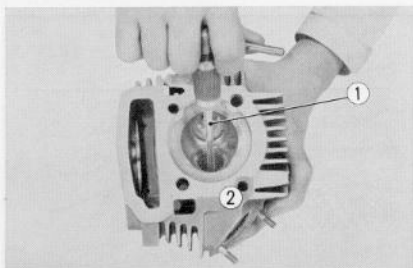

Fig. 3.21 ① Valve guide reamer ② Cylinder head
If the valve guide inside diameter is beyond serviceable limits, it may be repaired by using a reamer ① (Tool No. 07008-00101) and replacing the valve with one of an oversize. (Fig. 3.21)